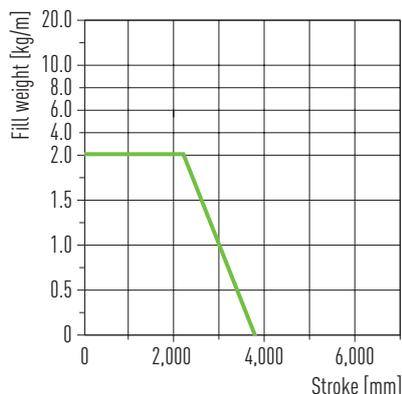
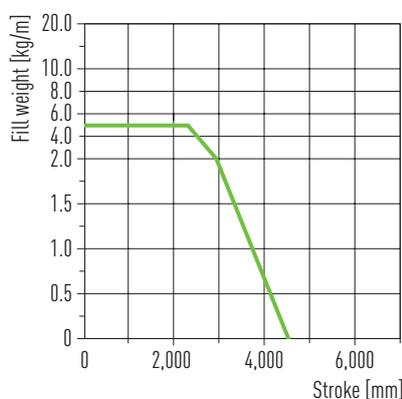
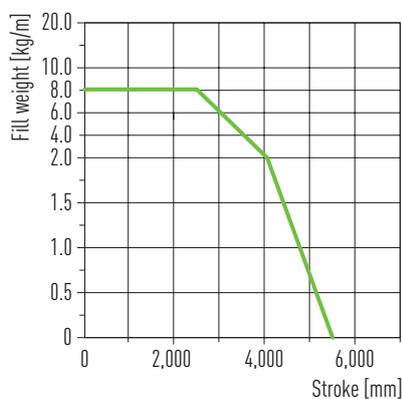

Fig. 4.19 Maximum permissible additional load as a function of the stroke, Series 1500 (source: igus)
Fig. 4.20 Maximum permissible additional load as a function of the stroke, Series 2400 and 2500 (source: igus)
Fig. 4.21 Maximum permissible additional load as a function of the stroke, Series 2600 (source: igus)
- Observe the maximum additional load from cables and hoses that is permitted based on the stroke (see Fig. 4.19, Fig. 4.20 and Fig. 4.21).